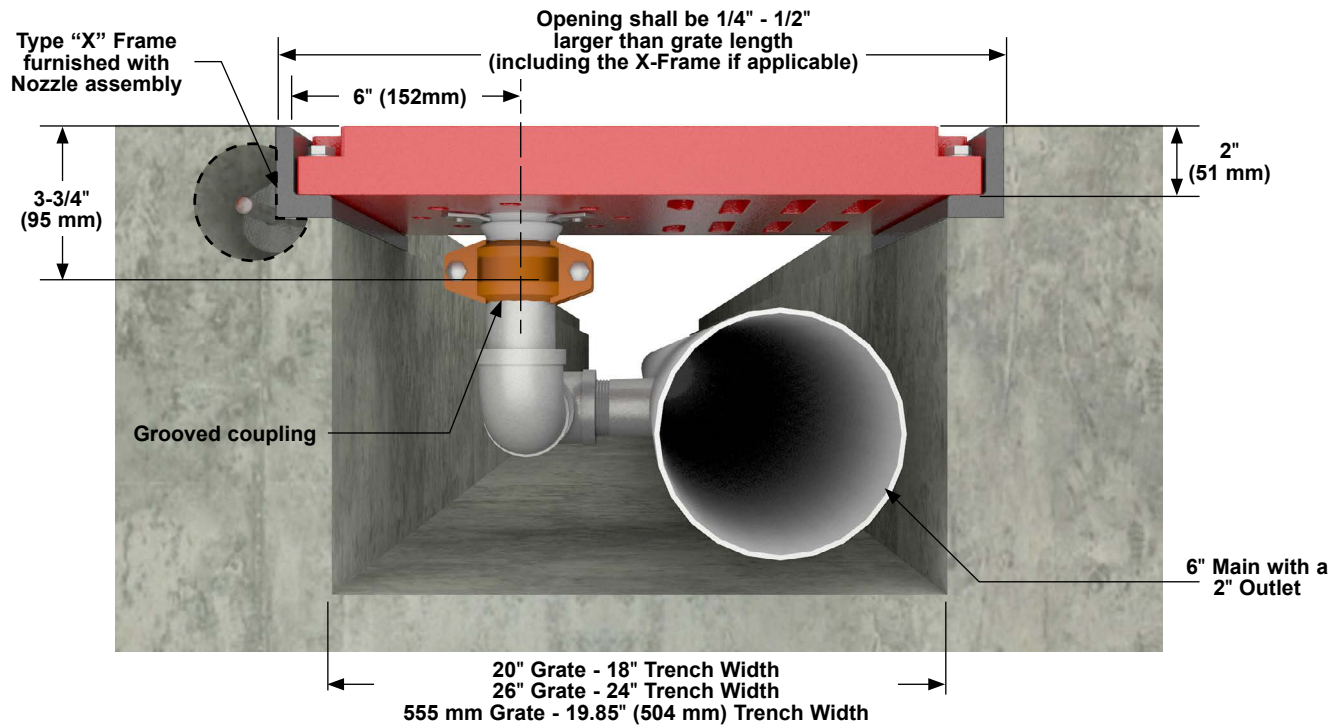

Figure 7.1.1: Trench Installation Cross Section
- C. Installation of the Grate Nozzle assembly and standard drain trench grates require that adequate drain trench sizing has been accounted for. (see Figure 7.1.1) Trench drain size should be defined by the architect or project engineer at an early stage and prior to installation.
- E. Supply piping must be located in the trench. A 2" supply pipe should be piped horizontally from the supply main located in the trench, and then vertically to the Grate Nozzle. The 2" supply must terminate in a grooved connection to allow for installation to the Grate Nozzle. (see Figure 7.1.1)